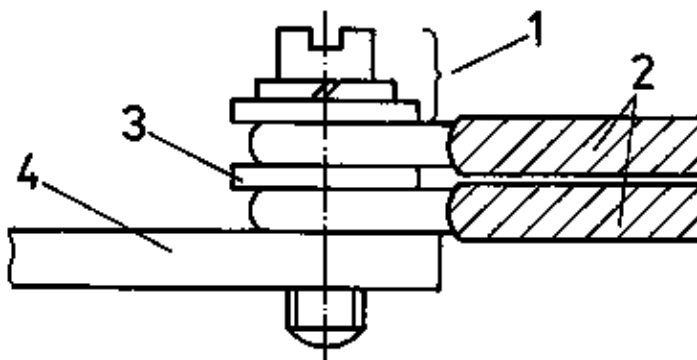

Figure 15 Connection to a connection strap with cap screw without clamping saddle
- When connecting a cable eye and a lug to a connection bolt, the cable eye and lug must be separately connected. (See also Figure 15)